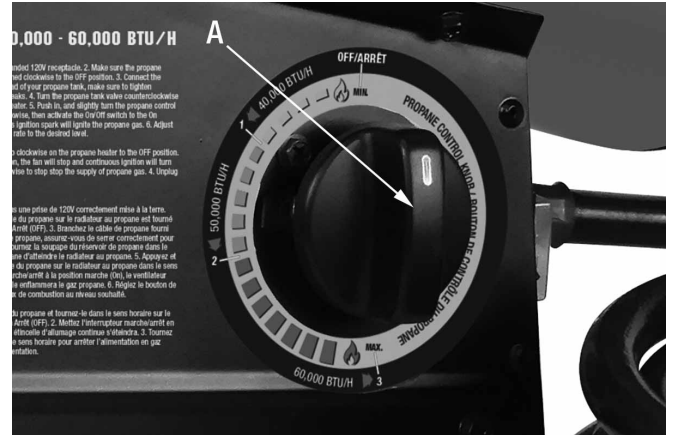

FIGURE 3
2. Make sure the propane control knob (A) Fig.3 on the propane heater is turned clockwise to the OFF position.